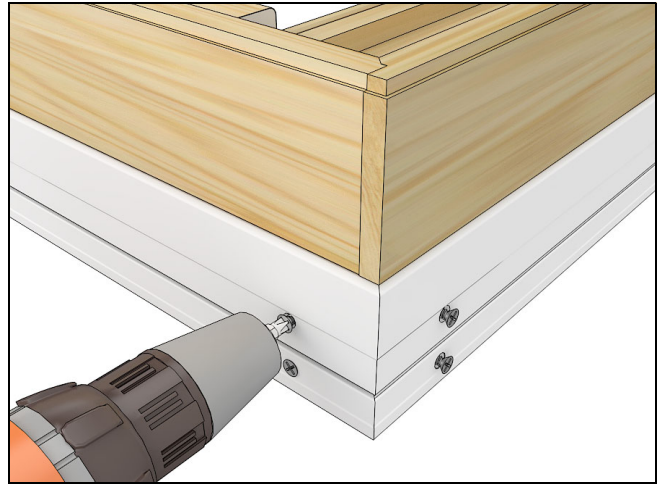

Figure 3
3. Fasten the side jambs to the head jamb. Do not over tighten miter joint. See Figure 3.